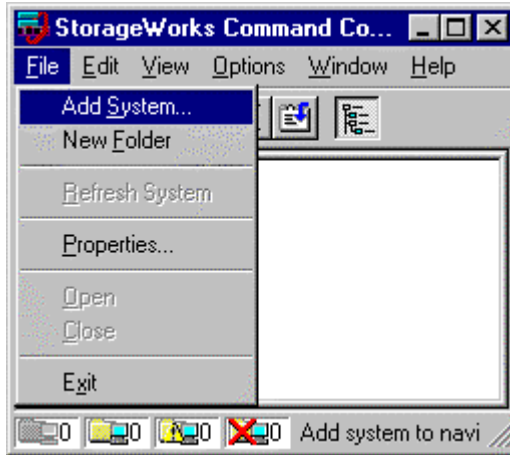
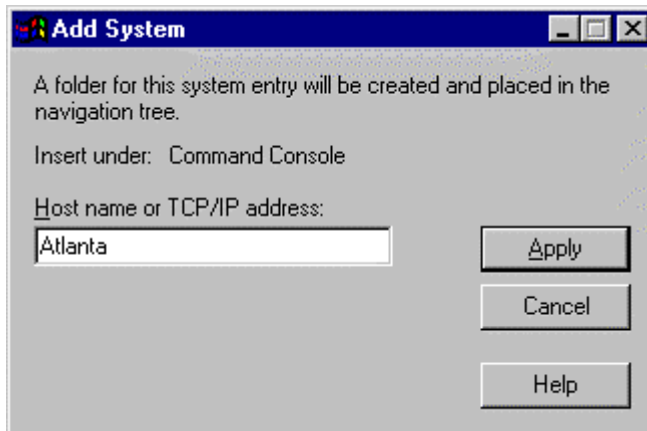

Figure 5-8. Navigation window's file menu
Figure 5-9. Add system dialog box
- From the *Navigation Window's File Menu* (Figure 5-8), select *Add System* to display the *Add System Dialog Box* (Figure 5-9).